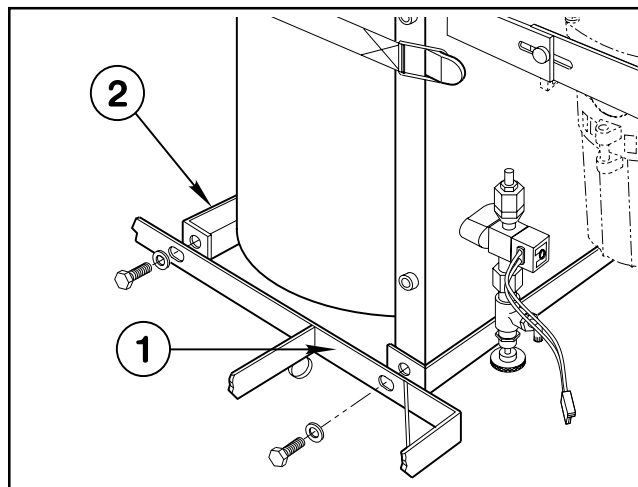

Fig. 1
1. Remove four (4) 1/4" x 1" cap screws and flatwashers holding Cover to the Tank/Compressor Assembly. Remove Cover. Set cover and fasteners aside for future reinstallation.
2. Mount Tank/Compressor Assembly to right vehicle step frame using two (2) 3/8" x 1" hex hd. cap screw and flatwashers. Fasteners must be installed from the backside of the step frame. (Fig. 1)